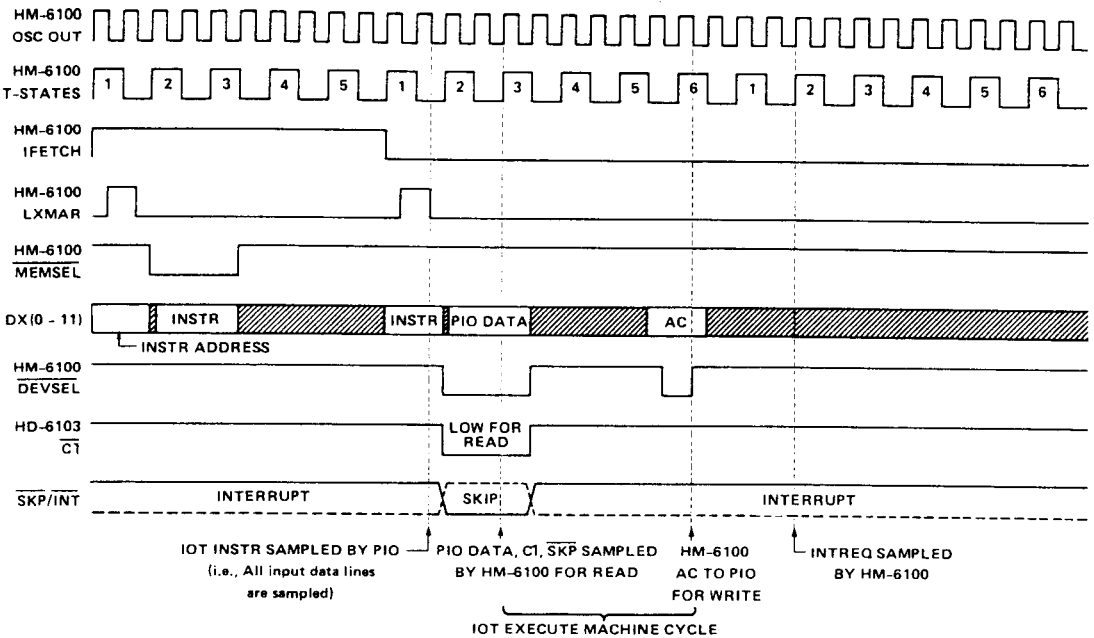

FIGURE 3 - HD-6103 System Timing Diagram
The three-state bi-directional 12-bit DX bus is used to transfer data and control information (Fig. 3) between the HD-6103 and the HM-6100 microprocessor. The HM-6100 transmits the device address and control information on the DX bus during the 'execute' phase of an Input-Output Transfer (IOT) instruction. The HD-6103 accepts this information on the falling edge of the LXMAR (Address Latch Enable) Signal.
externally hard-wired to match the DX6 and DX7 chip select bits. As shown in Fig. 3, DEVSEL goes low, during the first half of an IOT execute machine cycle for a read operation and it goes low again in the second half for a write operation. The HD-6103 responds to a 'read' instruction by putting data on the DX bus and C1 output (of HM-6100) low when DEVSEL (from HM-6100) input is low. C1 line goes low to indicate an input transfer cycle to the HM-6100. All PIO data transfers to the HM-6100 Accumulator (AC) is an 'OR' transfer, (i.e., PIO data is OR'ed into the contents of the AC).